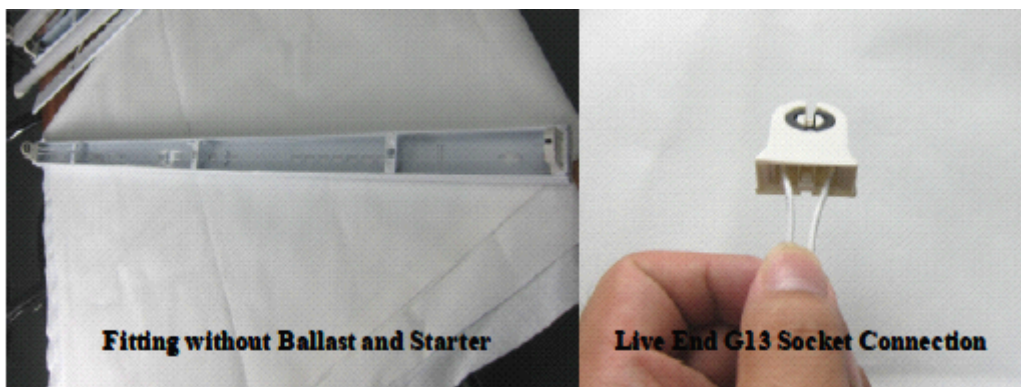

Figure4
STEP 1- Make sure the new fitting without ballast and starter. (If it has , please remove the fluorescent ballast and starter), COMLED T8 LED Tube Lamps DO NOT require a ballast and starter (figure 4).